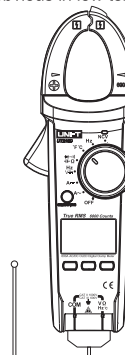

Fig. 6
5.Measurement of temperature (shown as Fig. 6)